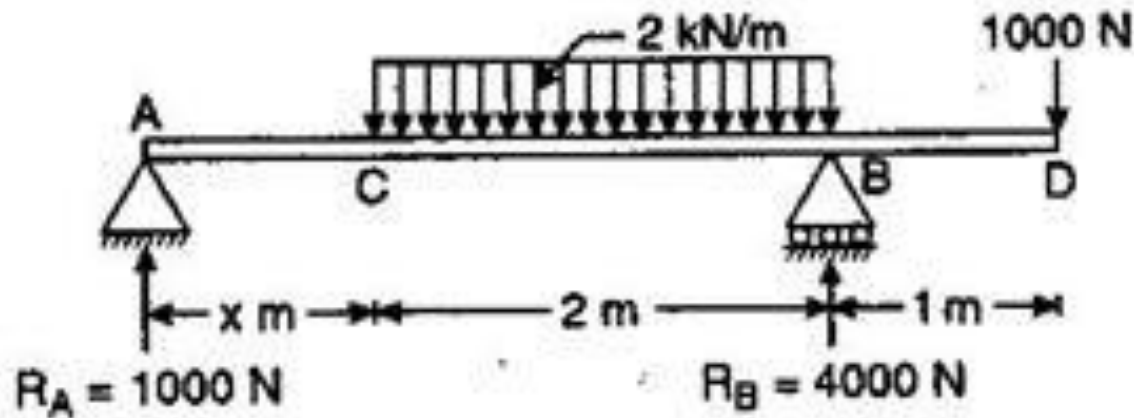

Figure Q5b Beam under loading.
- The beam is loaded and supported as shown in Fig Q5b. Write equations for the shear force V and the bending moment M for any section of the beam. [10]
- Draw the shear force and bending moment diagrams for the beam under Figure Q5b loading. [6]